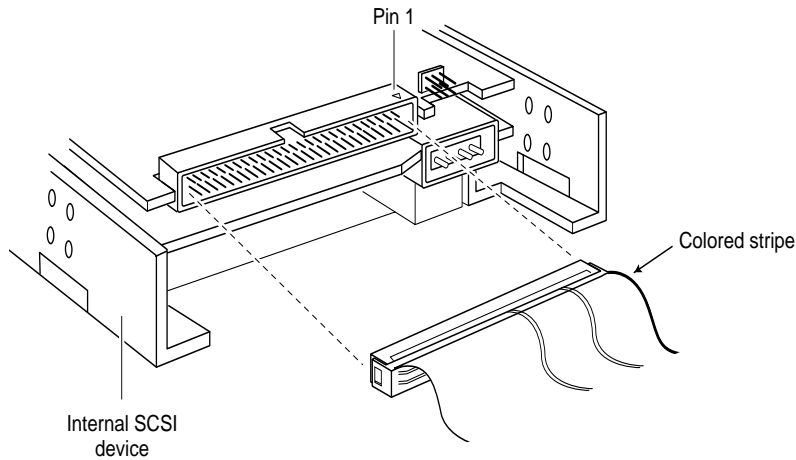

Figure 3-7. Internal SCSI Ribbon Cable to Internal SCSI Device
- 5 To connect other internal SCSI devices, plug the devices into the other connectors on the ribbon cable, as shown in Figure 3-7.